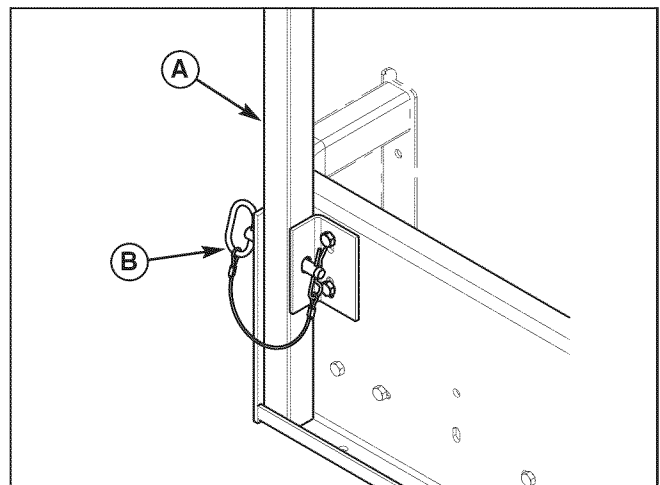

Figure 39. Install Mount Posts & Hitch Pins
4. Temporarily install the collector mount posts (A, Figure 39) into the collector plate and install the hitch pins (B). This will insure that the holes are properly aligned for easy installation and removal.